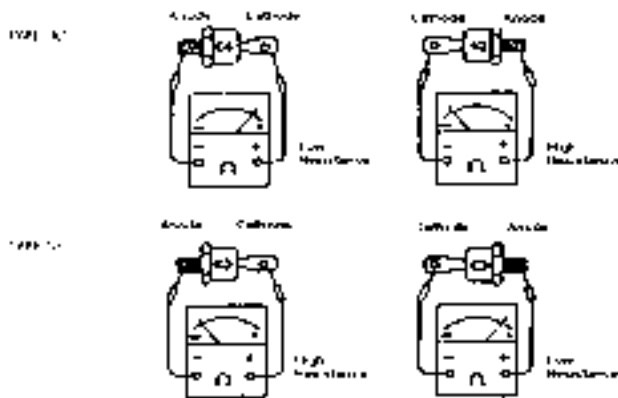

Figure 8. Testing Diode Elements
- b. To test the rotating rectifier diodes, disconnect the lead to the diode element and measure the resistance between the anode and cathode on each diode (see Figure 8).